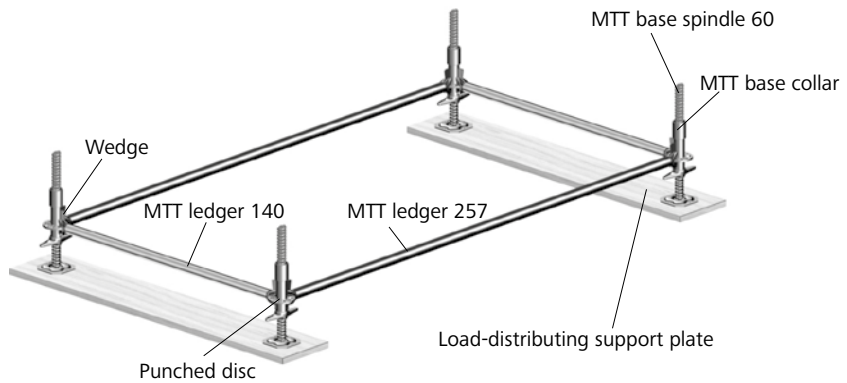

Fig. 9.1
6. Strike the wedges with a hammer until they are secure (Fig. 9.1).